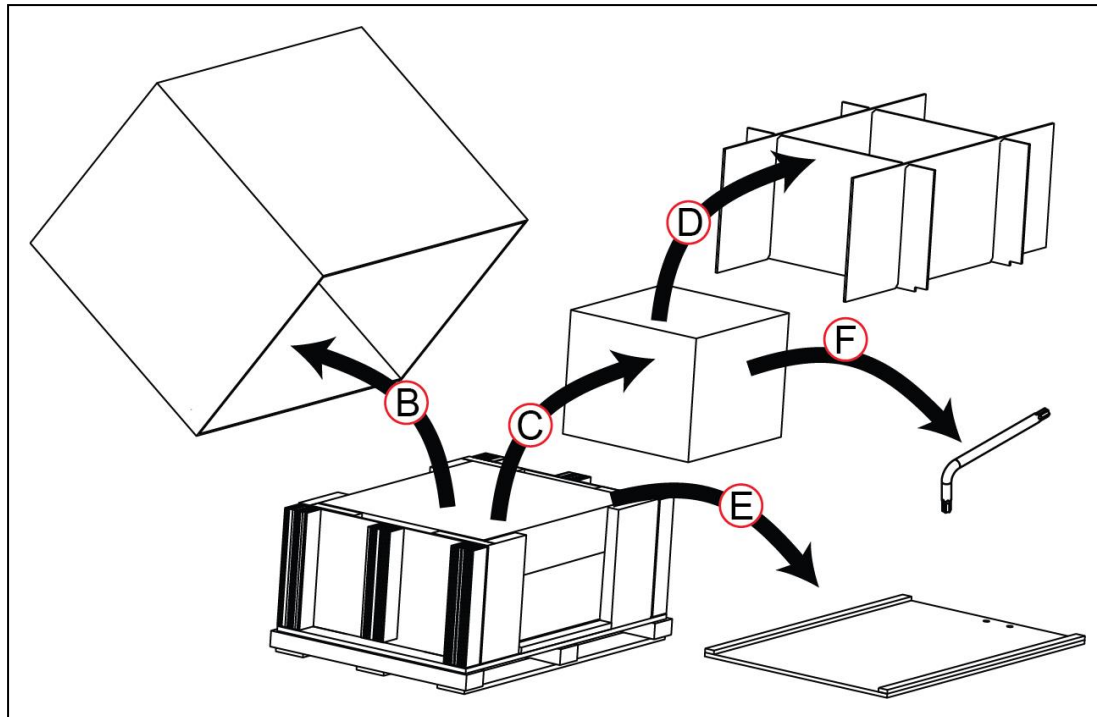

Figure 3-3 Unpacking the Docking Station and Accessories
1. Referring to Figure 3-3, lift the main carton (A) upward and off the pallet.
2. Remove any other accessories or options included in the filler (D). Locate one of the included accessories, a T30 Torx driver (F), which you will need later to move the LD-250.
3. Remove the filler (D) and carton (C) containing the docking station, and then lift the filler off the carton.
3. Referring to Figure 3-3, remove the protective filler (A) from each end of the pallet.
4. Remove the four foam corners (B).
5. Remove the corrugated fiberboard cover from the LD-250 (C). There is padding underneath to protect the top surface of the LD-250.
6. Remove the padded wrapping (D) from the LD-250.
7. Place the ramp in the end of the pallet, so that the two bolts in the pallet engage with the holes in the ramp (E).